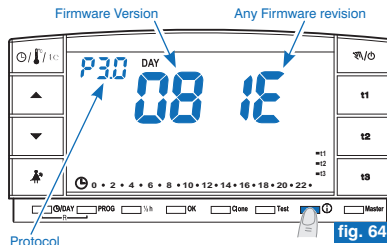

fig. 64
- Press ① once: the display will show the radio protocol version, the installed firmware version and any revision. (example in fig. 64).